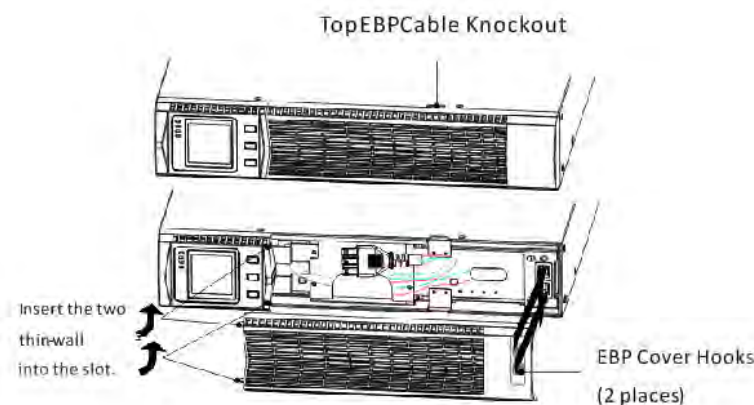

FIG.10
1. Remove the front cover of each EBP and UPS (see FIG. 10).